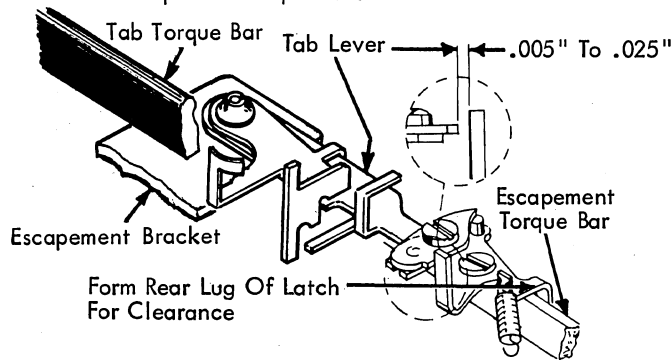

FIGURE 166. Interlock
8. Carrier Return Tab Interlock (Fig. 166) - With the carrier return clutch latch (in a carrier return operation) the upright lug of the tab latch should clear the end of the tab lever pawl by $.005'' - .025''$. The rear lug of the tab latch should be formed forward or back to obtain this condition.